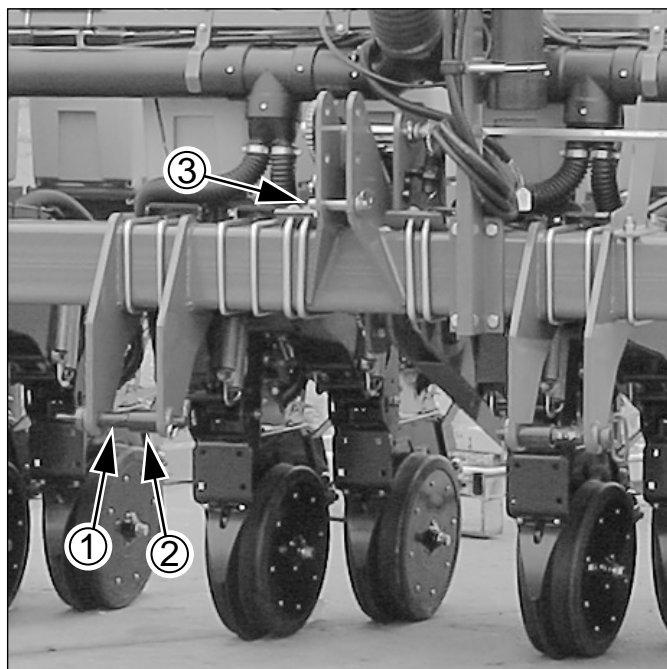

Figure 3
*Refer to Figure 3*
4. Remove hairpin and cross-pin ①.
5. Slide stand tube up until lower storage hole ② aligns with bracket hole.